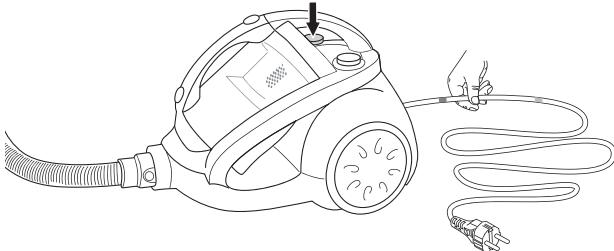

Figure 8
- Guide the power cord whilst it rewinds onto the reel, since otherwise the cord could become tangled or the plug could strike the back of the appliance. Take hold of the power cord near the mark, and allow it to gently slide through your fingers back into the appliance, see Figure 8.